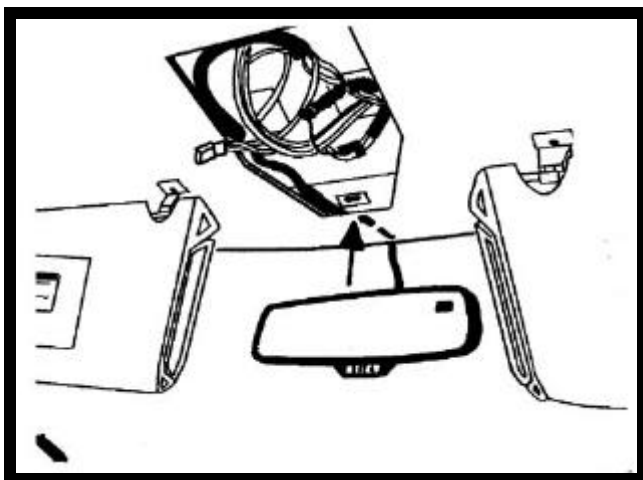

FIGURE 9
8. If vehicle is equipped with an electronic compass, unsnap the wire harness clip and relocate toward center of vehicle. See Figure 9.